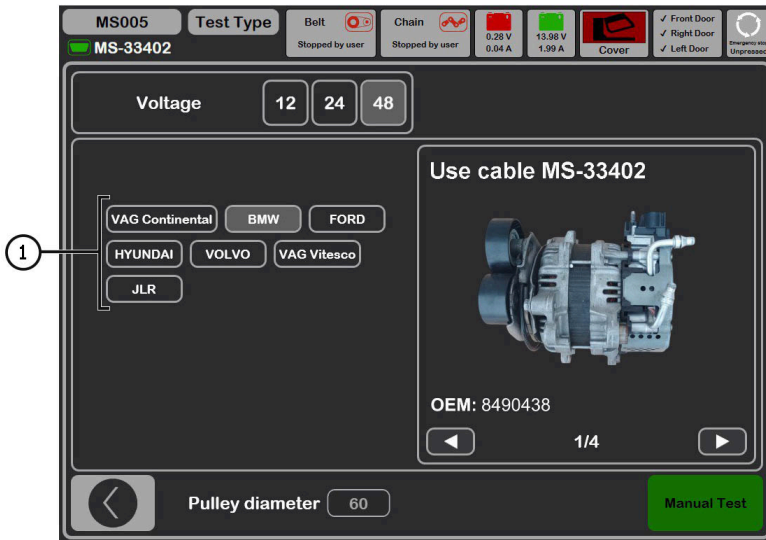

Figure 28. 48 V alternator selection menu
4. Enter the "Alternator" menu. Select the 48 V alternator diagnostic mode and the vehicle model corresponding to the alternator or the OEM number of the unit (see item 1, Fig. 28). Also set the value of the alternator pulley diameter.